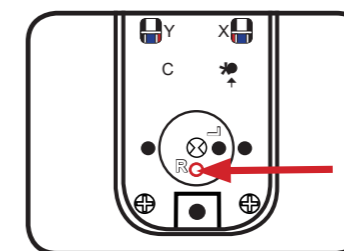

Fig.3
2. Lift the cover plate off to expose the handing pin underneath as per Fig.3.